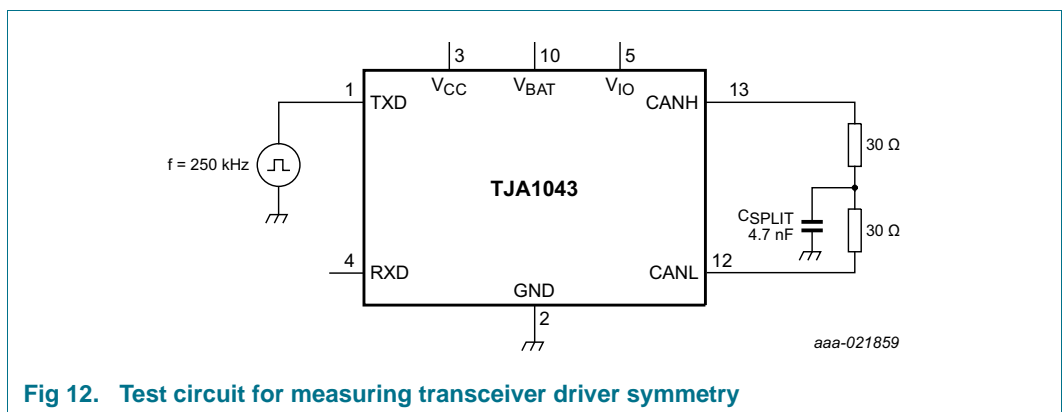

Fig 12. Test circuit for measuring transceiver driver symmetry
- [3] The test circuit used to measure the bus output voltage symmetry (which includes  $C_{SPLIT}$ ) is shown in Figure 12.